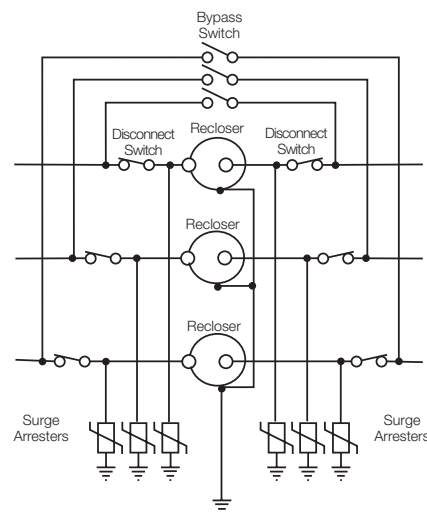

Figure 8. Connection diagram shows complete surge protection and illustrates bypass and disconnect switches.
7. Make the high-voltage line connections. See Figure 8.